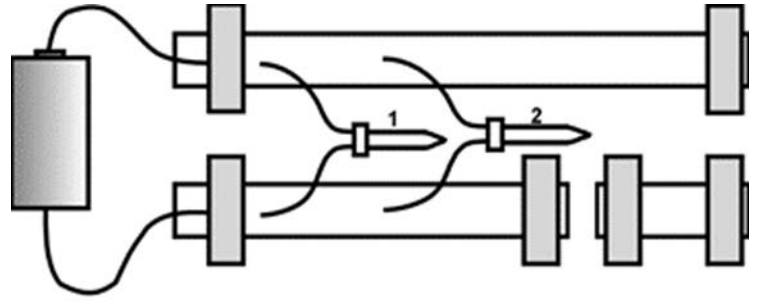

Figure 4
- Move Light 1 so that it connects the top strip to the left segment of the bottom strip. Attach Light 2 in the same manner as shown in Figure 4.